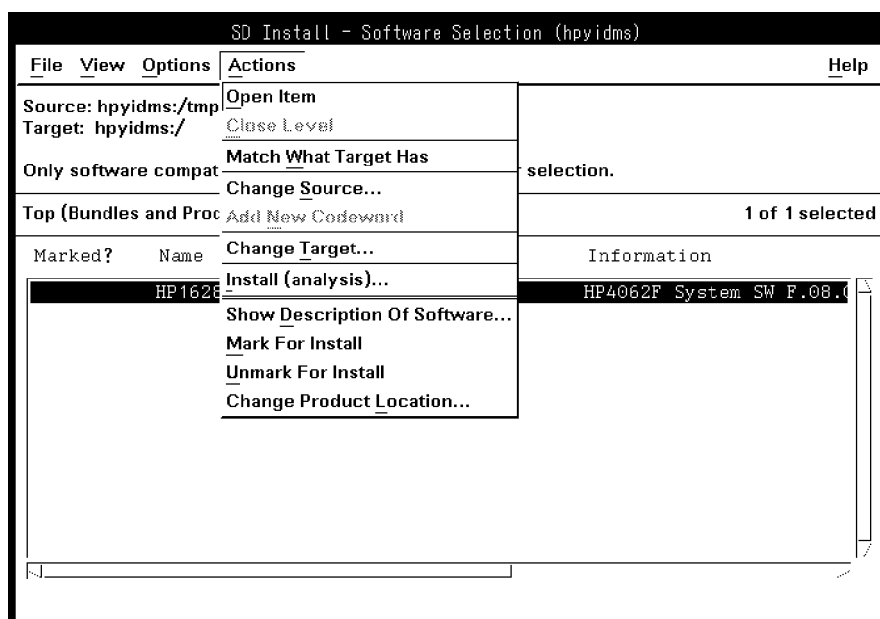

Figure 5-4. SD Install Window with Action Menu
- f. Choose Action: Install (Analysis) ... as shown in Figure 5-4.